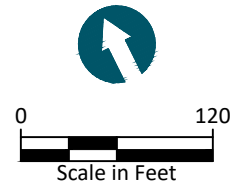

Figure 3
orange ball buoys, anchored incrementally along the length of the buoy line, and six individually anchored regulatory buoys. The purpose of the buoy relocation and supplemental anchoring was to realign the perimeter buoy system more closely with the boundary of the armored cap and to install approximately 600 pounds of additional anchor weight at 17 locations along the ball buoy line, spaced approximately 100 feet apart. The approximate location of the relocated perimeter buoy system and the supplemental ball buoy anchor points are shown in Figure 3. The buoy relocation and supplemental anchoring work consisted of the following components:
- Figure 3 Buoy Relocation and Additional Anchor Installation